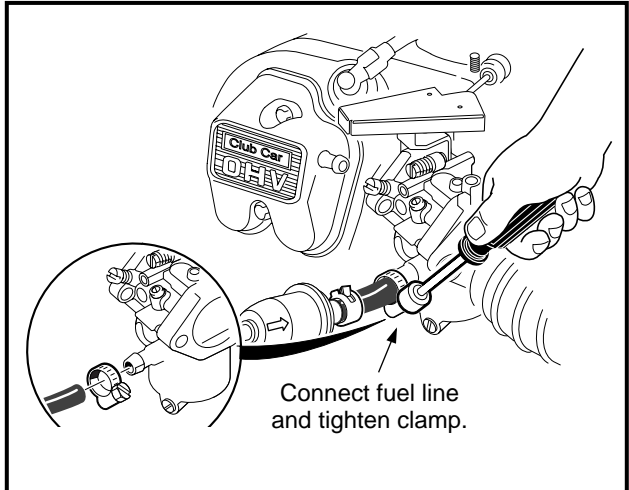

Figure 16-99 Connect Fuel Line
29. Pull fuel line from impulse line fitting of the fuel pump, connect it to the carburetor and secure with a hose clamp **(Figure 16-99, Page 16-40)**.